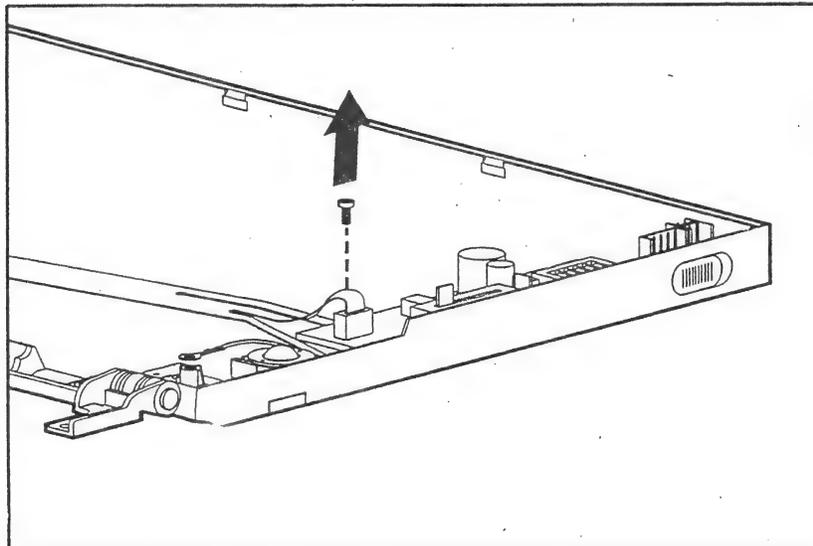

Figure 2-22. Removing the Display Inverter Board Screw
3. Using a JIS-0 screwdriver, remove the two screws that secure the display inverter board (Figure 2-22).